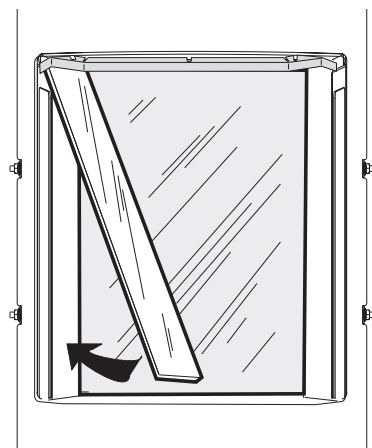

Figure 26a. Install Side Glass Panels.
- Orient the side panels, shiny side out, and sliding each behind the retainer wings. See Fig. 26a.